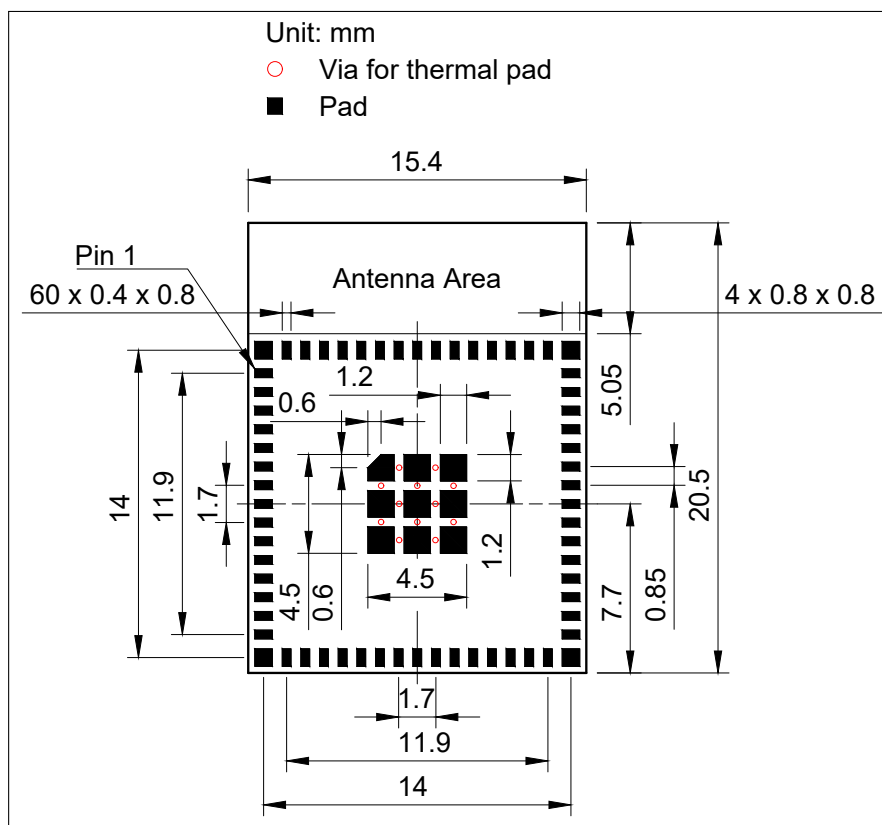
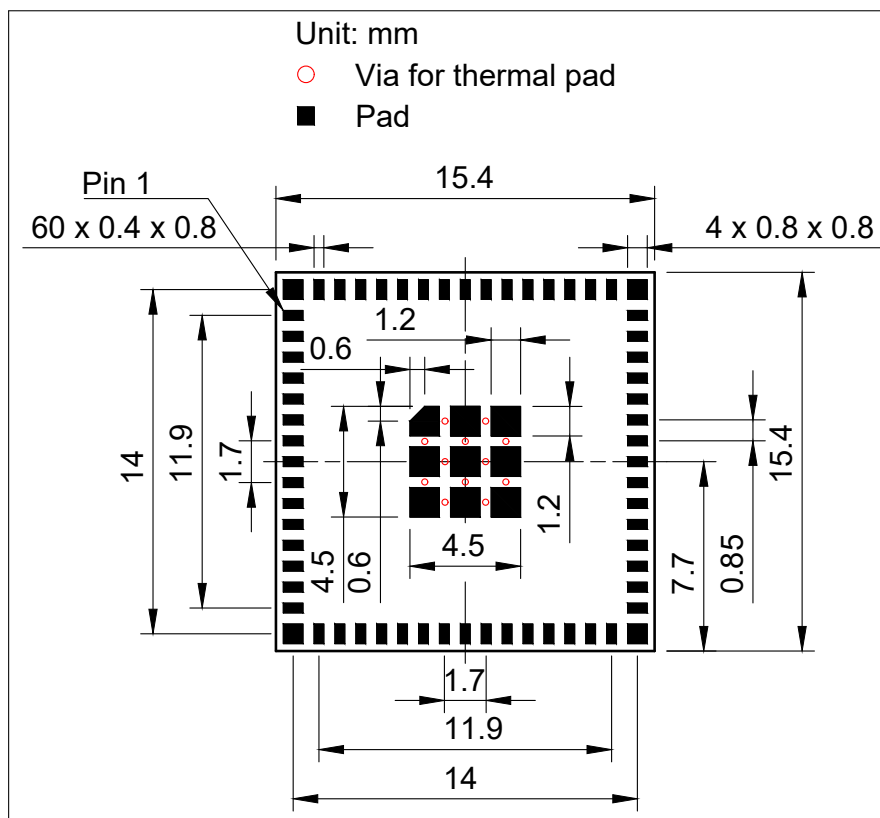

Figure 11-1. ESP32-S3-MINI-1 Recommended PCB Land Pattern
Figure 11-2. ESP32-S3-MINI-1U Recommended PCB Land Pattern
- Figures for recommended PCB land patterns with all the dimensions needed for PCB design. See Figure 11-1 *ESP32-S3-MINI-1 Recommended PCB Land Pattern* and Figure 11-2 *ESP32-S3-MINI-1U Recommended PCB Land Pattern*.
- Source files of recommended PCB land patterns to measure dimensions not covered in Figure 11-1 and Figure 11-2. You can view the source files for ESP32-S3-MINI-1 and ESP32-S3-MINI-1U with Autodesk Viewer.